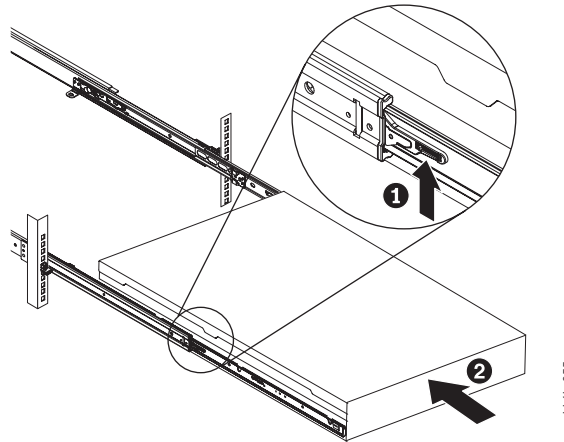

Figure 83. Raising the locking levers of the slide rails of the rack
- If you pulled out the node to the fully-extended position on the rack, lift the locking levers (**1** in Figure 83) on the slide rails and push the server **2** all the way into the rack until it clicks into place.